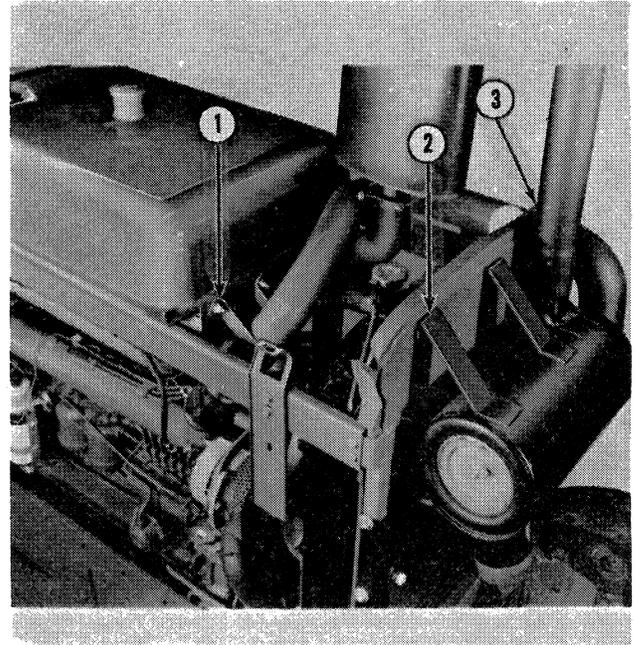

Figure 3
Air Cleaner — Remove the air intake pipe at the intake manifold and at the radiator bracket flange and remove from the tractor, Figure 3.
Muffler — Unbolt the muffler pipe from the turbocharger bracket. Remove the two heat shield clamps. Remove the muffler, support bracket and muffler pipe from the tractor, Figure 3.
6. Remove eight bolts that attach the main fuel tank support brackets to the tractor, Figure 3.